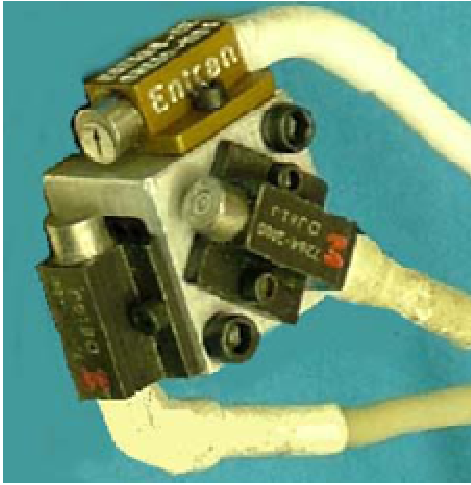

Figure 17 - Head accelerometers installed on triaxial mount block
1. Mount the three uniaxial piezoresistive accelerometers onto the triaxial mount block with two each #0-80 X 1/8" SHCS so that their seismic masses all point to one corner of the block (Figure 17).